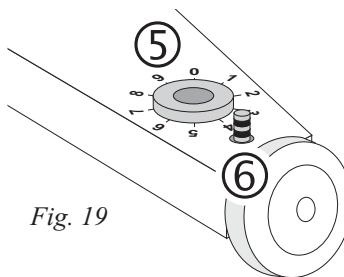

Fig. 19
Position aimer at front of bay. Turn on laser by turning knob on laser housing. Measure center of laser beam height from floor at front wheel and at back wheel. The distance from the floor should be the same. If it is not, adjust floor slope knob until they are equal. See fig. 16 and fig. 19.
Near the floor slope adjustment knob (5), there is a register (6) consisting of a small cylinder that can be used to count the turns of the knob (5). This register sinks or raises with each turn of the knob (fig. 19).